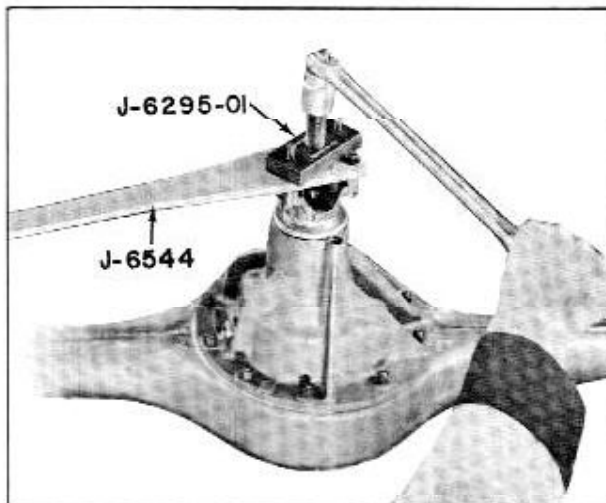

Fig. 6-9 Removing Companion Flange
4. Remove companion flange using puller J-6295-01. (Fig. 6-9)
5. Remove washer and then remove companion flange using puller J-6295-01. (Fig. 6-9)